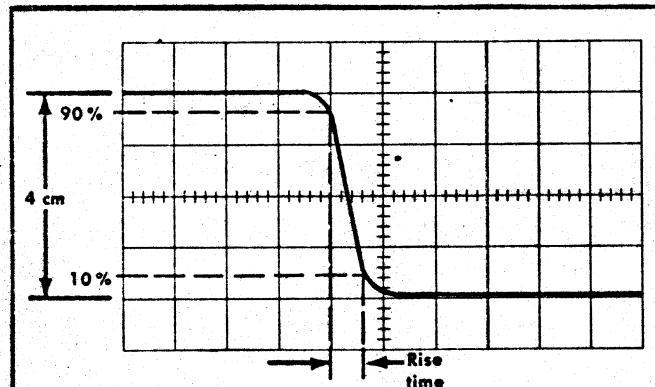

Fig. 5-2. Measuring negative going pulse risetime.
b. Check for the same response as seen in steps (d) and (e) of the next check (5).
e. Check the negative risetime of the display (see Fig. 5-2); it should measure 6.5 nsec or less, from the 10% point to the 90% point.